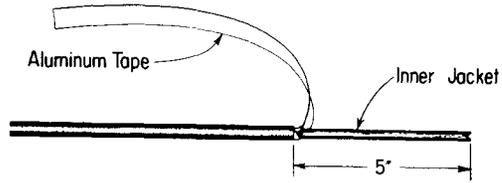

Fig. 8 – Strip Outer Jacket and Aluminum Tape
4.02 Place the 123A1A or 128A1A Protector on the wall and mark the location of the “Lug-It” on the service wire. Cut off the wire about 5-inches beyond this point. Remove the outer jacket and untwist the aluminum tape as shown in Fig. 8.